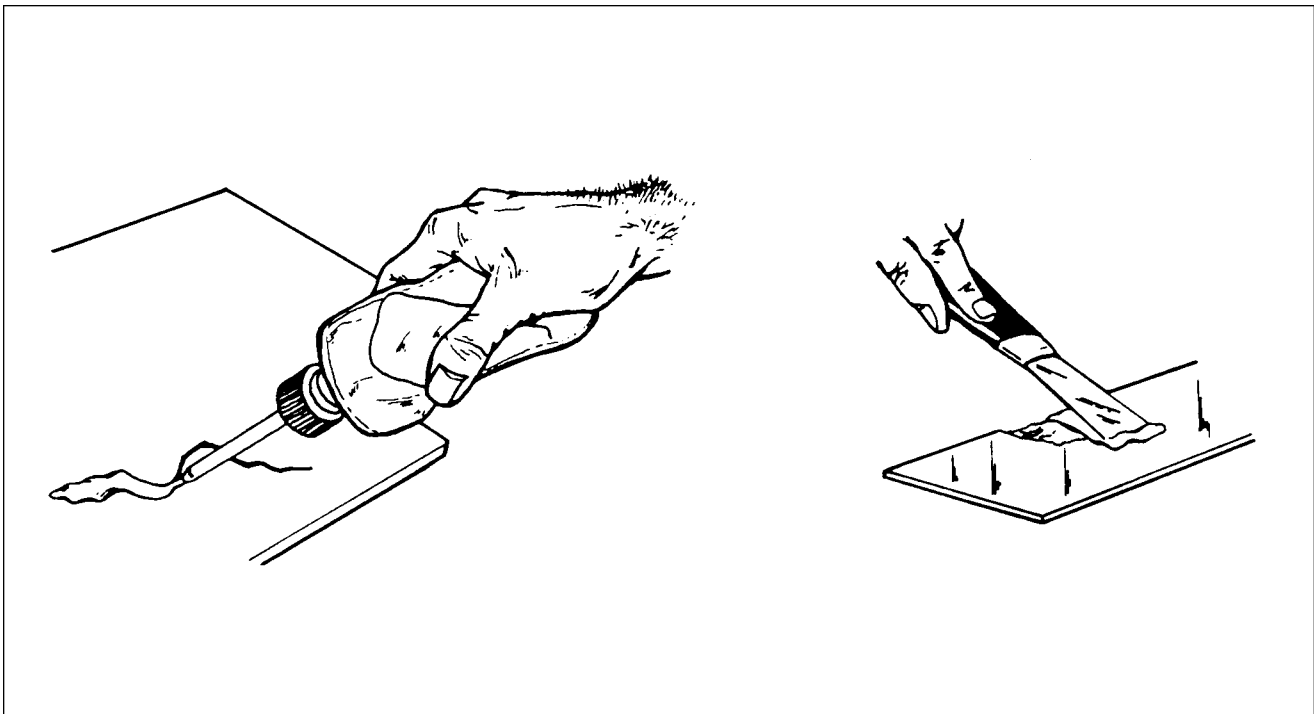

Figure 51-3. Deep Scratches, Shallow Nicks and Small Holes
3. Deep scratches, shallow nicks, and small holes: (Less than 1 inch in diameter.) (figure 51-3)